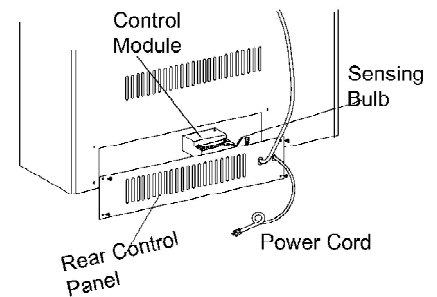
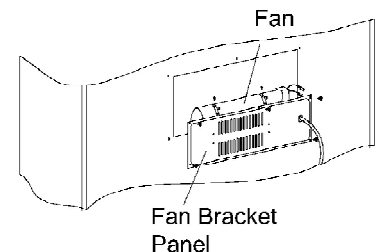
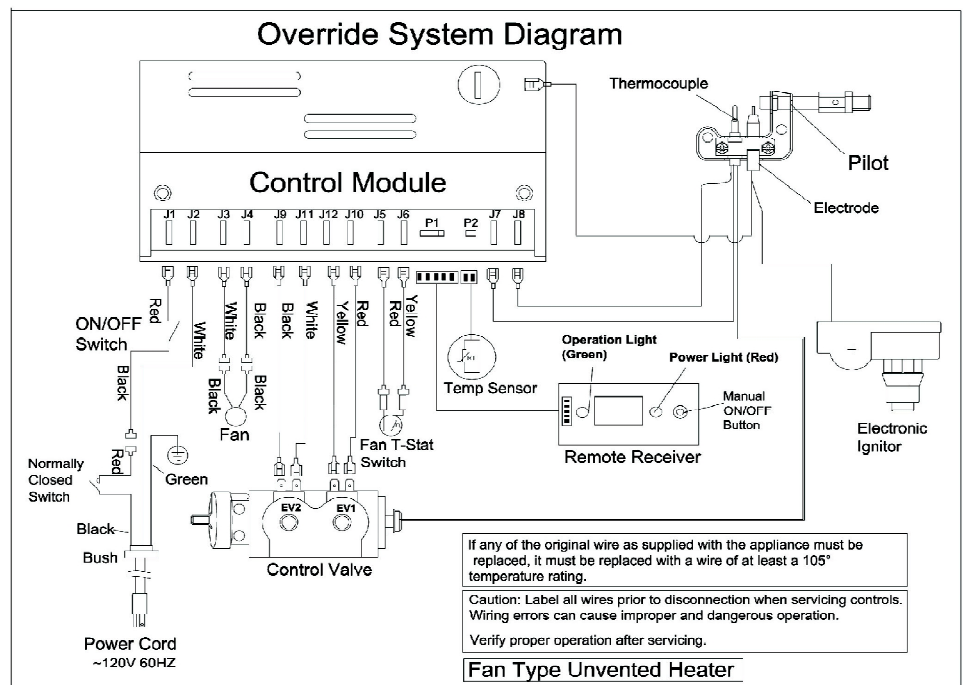

Figure 22- Control Model
Figure 23- Fan
Figure 25 - Override Control System Diagram
2. Remove two screws and hex nuts, take out the control module. When installing, reverse the steps above. (See Figure 22 and Figure 25).
2. Mark or tag each wire removed for its exact reconnection. Remove the four screws from the fan when installing, reverse the steps above. (See Figure 23 and Figure 25).